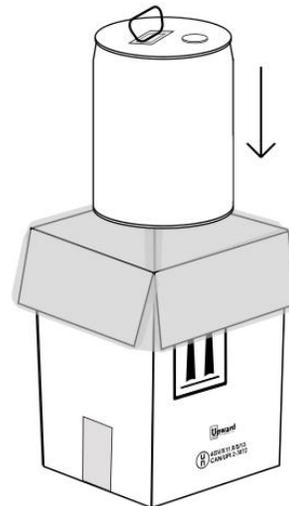

Figure 4
6. Place can into the liner bag in an upright position. (See Figure 4)